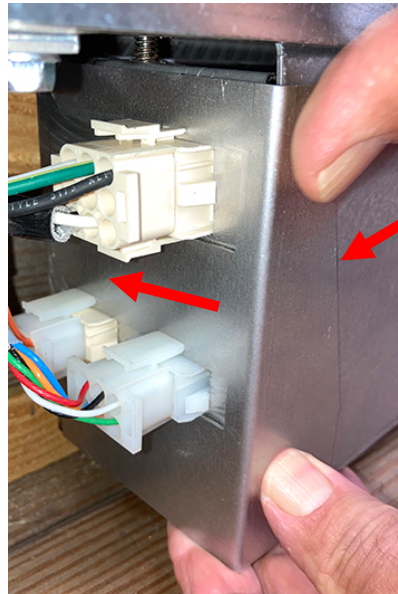

Figure 7
8. Ensure the front of the shield is pushed completely against the transformer box (see Figure 7).